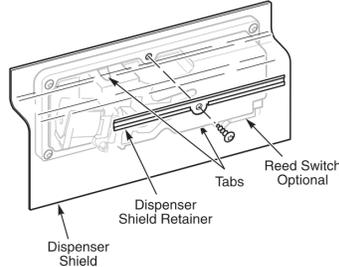

Figure 2 — Stainless Steel Models
2. Open dishwasher door and remove eight (8) T-15 Torx head screws from inner door panel.
- a) Remove the top center hex head screw from the dispenser assembly and remove dispenser shield. Set dispenser shield aside. See Figure 2.
- b) Remove remaining five (5) hex head screws from dispenser assembly.
- c) Lift two (2) locking tabs away from dispenser assembly to free it for removal.
- a) Reinstall five (5) hex head screws to secure dispenser assembly to inner door panel.
- b) Place dispenser shield in position over dispenser assembly and secure it with the remaining hex head screw in the top center position. See Figure 2.